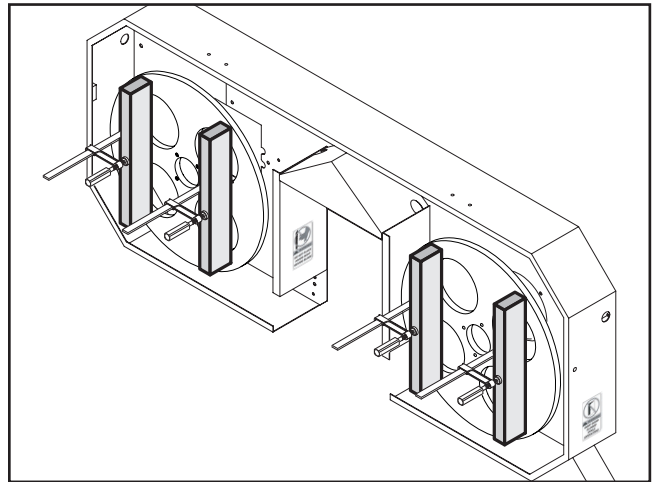

Figure 44. Precision gauge blocks clamped in position on wheels.
5. Clamp the gauge blocks to the wheels as shown in **Figure 44**.